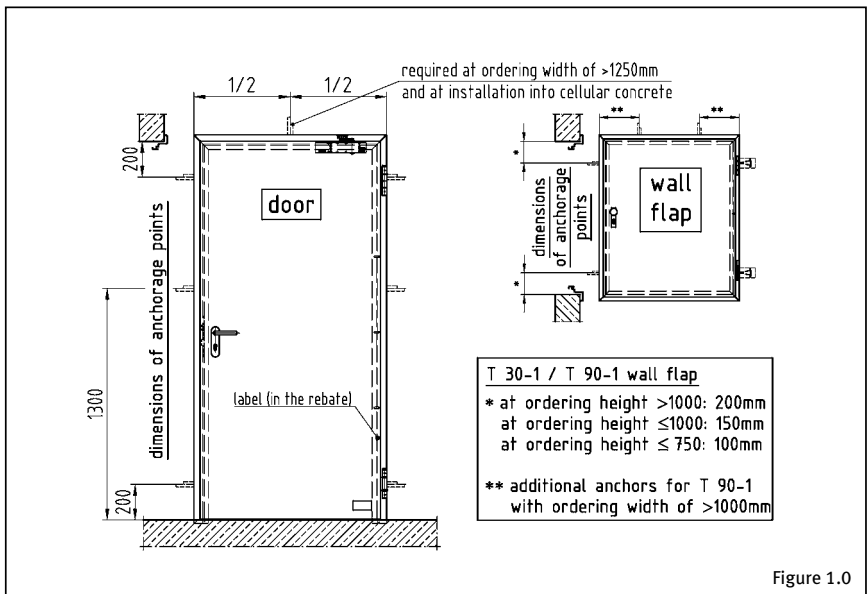

Figure 1.0
- 3.2 Unbend the shackles horizontally: once inward (scuncheon) and once outward (front side). Afterwards, insert the frame into the opening (Figure 1.0). Fasten the shackles with its approved straddling dowels and screws. Please ensure that the frame profiles do not get twisted when they are fastened.
- 3.3 Optional: Use special shackles to fasten any concealed mounting for exposed masonry. For positions of anchorage points refer to Figure 1.0.